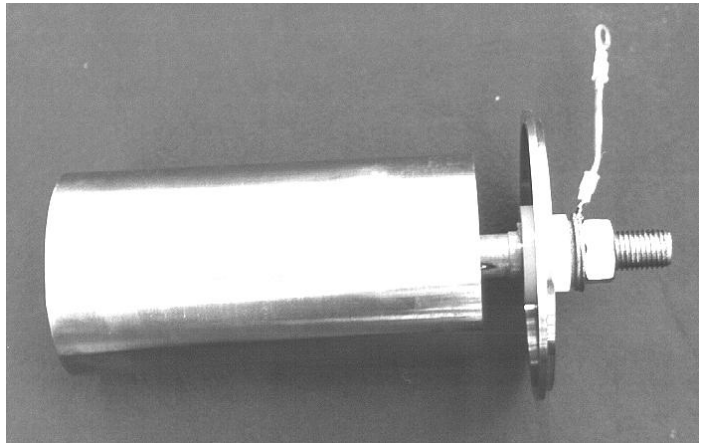

FIG 23. Cell - 5 cylinder. A view of the completed cylinder assembly
- E5f.** Now assemble the inner cylinder assembly to the lower cap plate. With clean hands, place the inner cylinder assembly top down, bolt up, on your flat plate. If not already done, slip your 1 inch long spacer sleeve onto the bolt. Next apply Vaseline (petroleum jelly), liberally all over the bolt shaft and inner washer. Place the inner washer onto the bolt so that the smaller diameter step is facing you and liberally cover this step with more Vaseline. Now place the lower cap onto the bolt the right way round, so that the 1 inch step of the inner insulator fits into the 1 inch hole of the lower cap. Again liberally apply Vaseline on the outer insulator and slip this over the bolt. Next, put your washer, electrical lug and nut on the bolt (see **FIG 23.**). Tighten the nut more than hand tight but not excessively. Check your handiwork, make sure you remove excess Vaseline also ensuring you do not get any on the cylinders or over the inside of the cap plate.